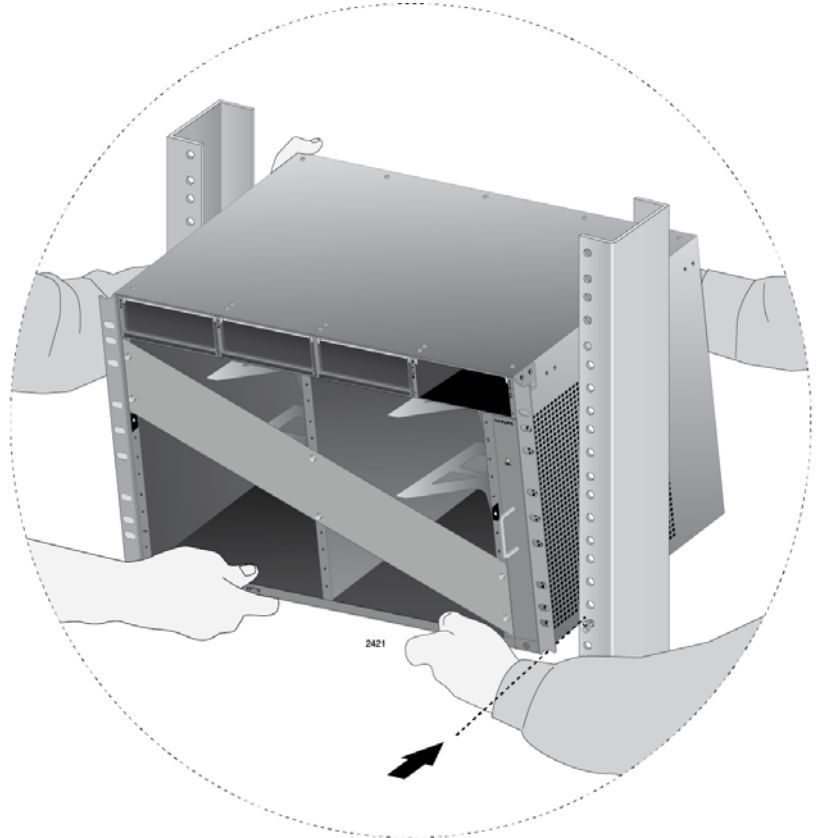

Figure 48. Lifting the AT-SBx8112 Chassis into the Equipment Rack
2. Do not mount any other equipment within 152.4 mm (6") above this space during installation. This additional vertical space is temporary and allows you enough room to lift and tilt the chassis into its position in the equipment rack without hitting other equipment, as shown in Figure 48 on page 123. You may use this additional space for other network equipment after the chassis is installed.
1. While facing the front of the chassis, tilt the top of the chassis toward you, as shown in Figure 48 on page 123.
2. Lift the AT-SBx8112 Chassis into the equipment rack and set the bottom of the equipment rack brackets firmly on the two equipment rack screws you installed in “Preparing the Equipment Rack” on page 115, as shown in Figure 48.